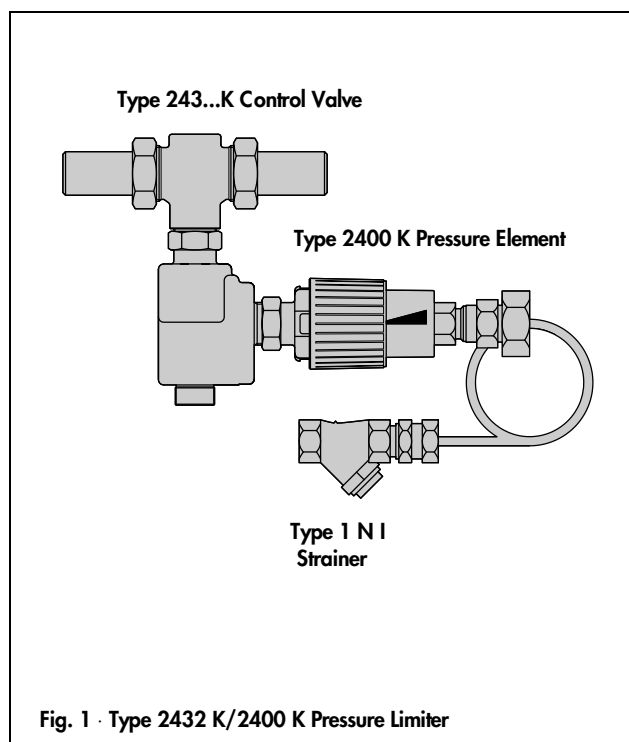

Fig. 1 · Type 2432 K/2400 K Pressure Limiter
Pressure Limiters (PL) with Type 243...K Control Valve and Type 2400 K Pressure Element (Figs. 1 and 2).